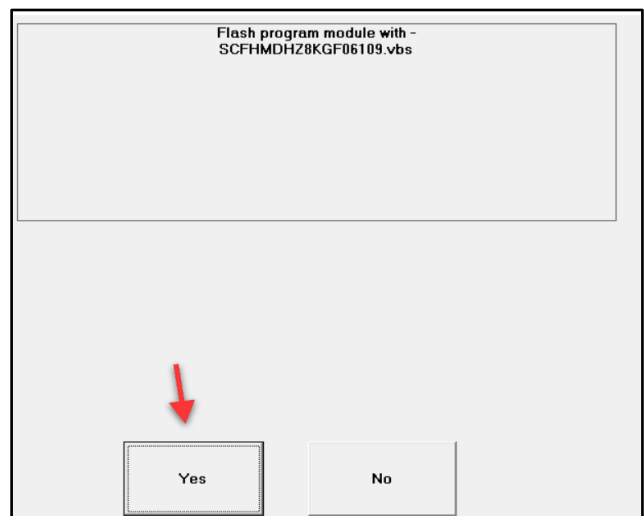

Figure 8
- 13. In the final pop-up window click "Yes" (refer to Figure 8). The Car Config file will be updated.